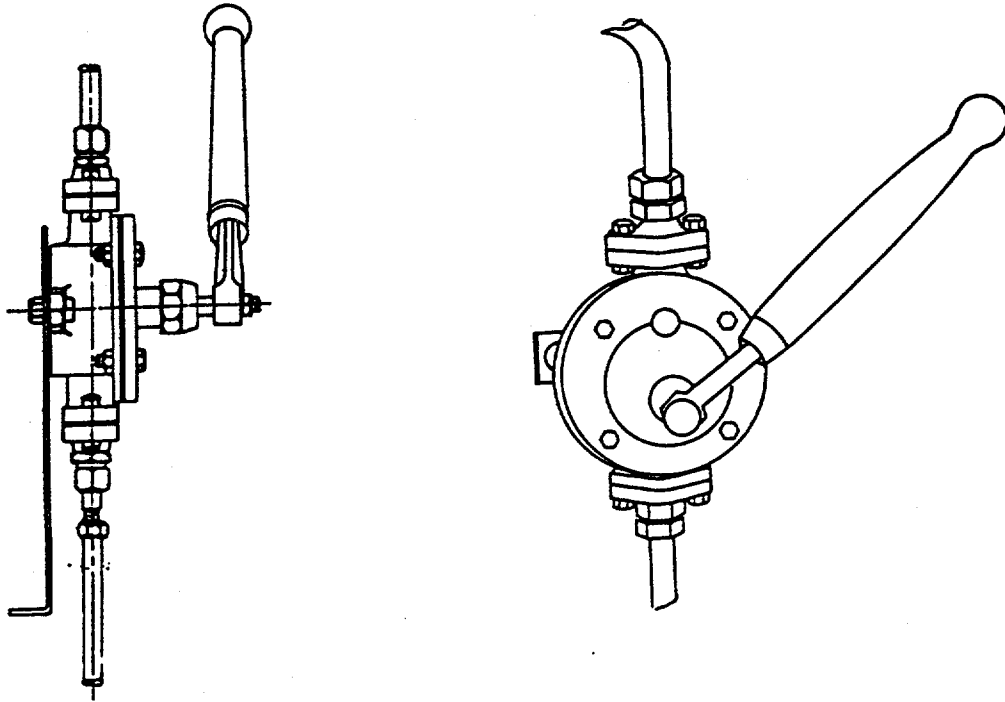

FIGURE 1-18. Oil Evacuation Pump.
r. Oil Evacuation Pump. (FIGURE 1-18). This semi-rotary hand pump allows the removal of lube oil and hydraulic fluid from enclosures that cannot be drained by gravity. The pump is bolted to one leg of the framework supporting the motor/pump assembly.